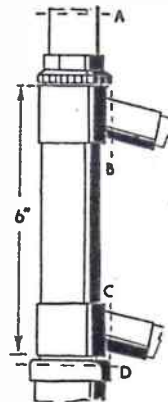

Fig. 2—How the steering piece is cut
pieces marked (A), (B), (C) and (D) in Fig. 2. (B) and (C) should be cut off as close to the main stem as possible, while (A) is left about 2ins. long, measuring from the ball bearing joint.